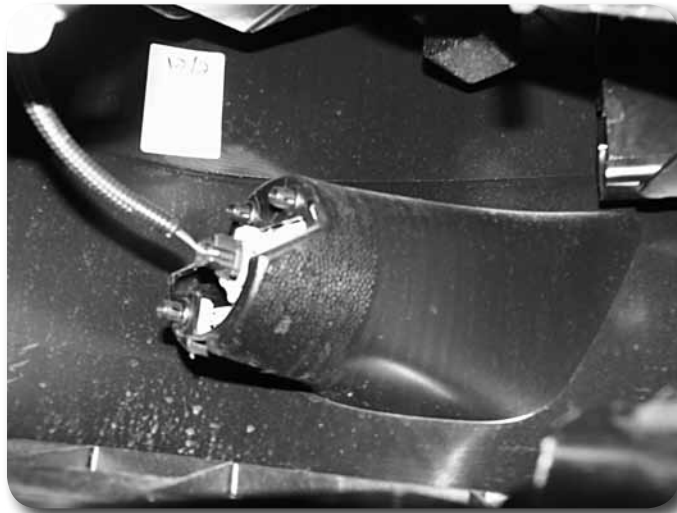

Figure 1
7. Disconnect fog lights (if equipped), remove clip from light assembly **Figure 1**.